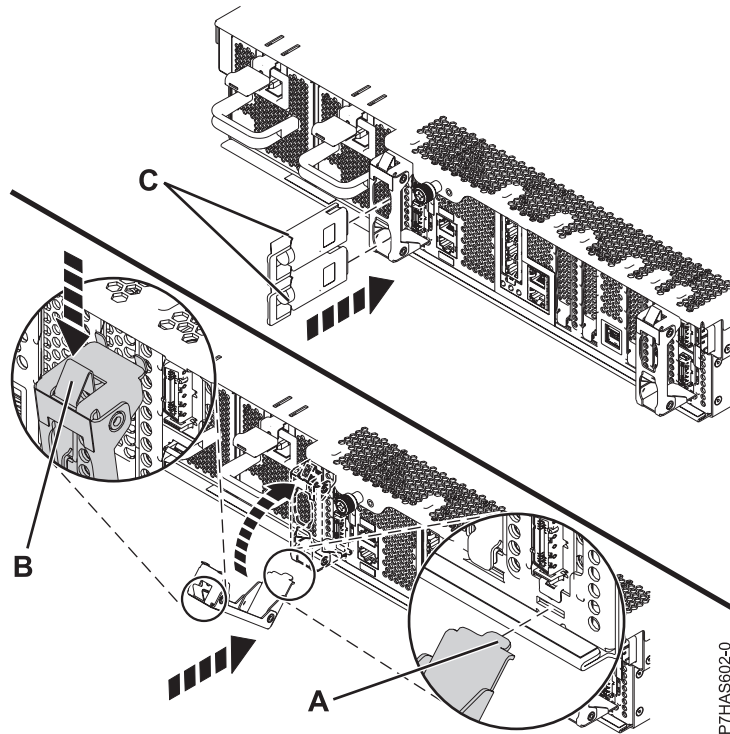

Figure 3. Cable retention bracket installation
17. Tilt the cable retention bracket (A), shown in Figure 3, to hook the tab at the bottom of the bracket into the slot in the assembly.